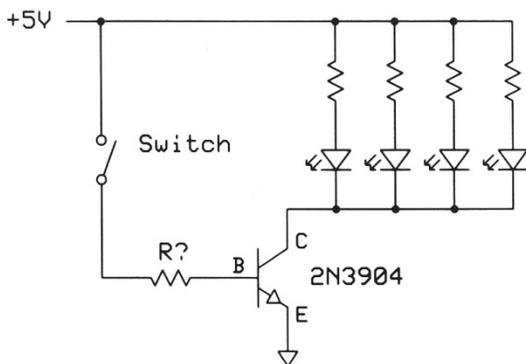

Figure 21.18.
1. Determine the current through the load – LEDs, a small relay, and so on. **Figure 21.18** shows a simple circuit that operates four LEDs in parallel at 30 mA each, or 120 mA total. The 2N3904 data sheet shows a 200-mA maximum for the collector current, I_C , and a maximum 40-volt collector-to-emitter voltage, so the transistor can control the four LEDs.